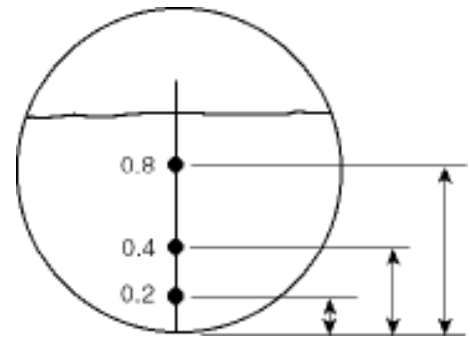

Figure 1-2. (.2, .4, .8) Velocity Positions
- At the .2, .4, and .8 positions, measure and record the velocities (Figure 1-2).